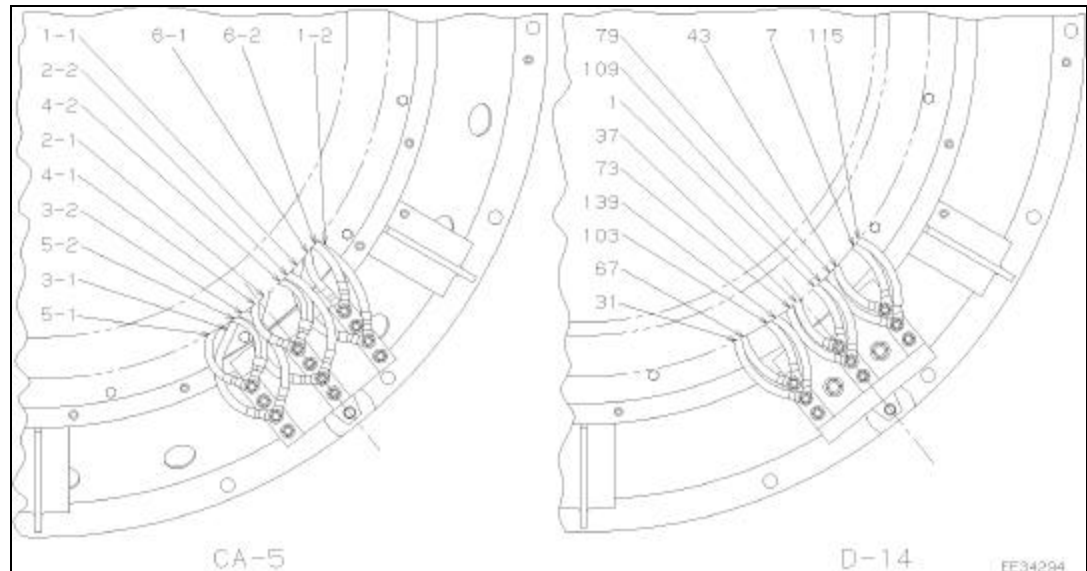

Fig. 11 – CA5 Alternator and D14 Alternator
3. Phase lead markings as shown in Fig. 11, page 19.